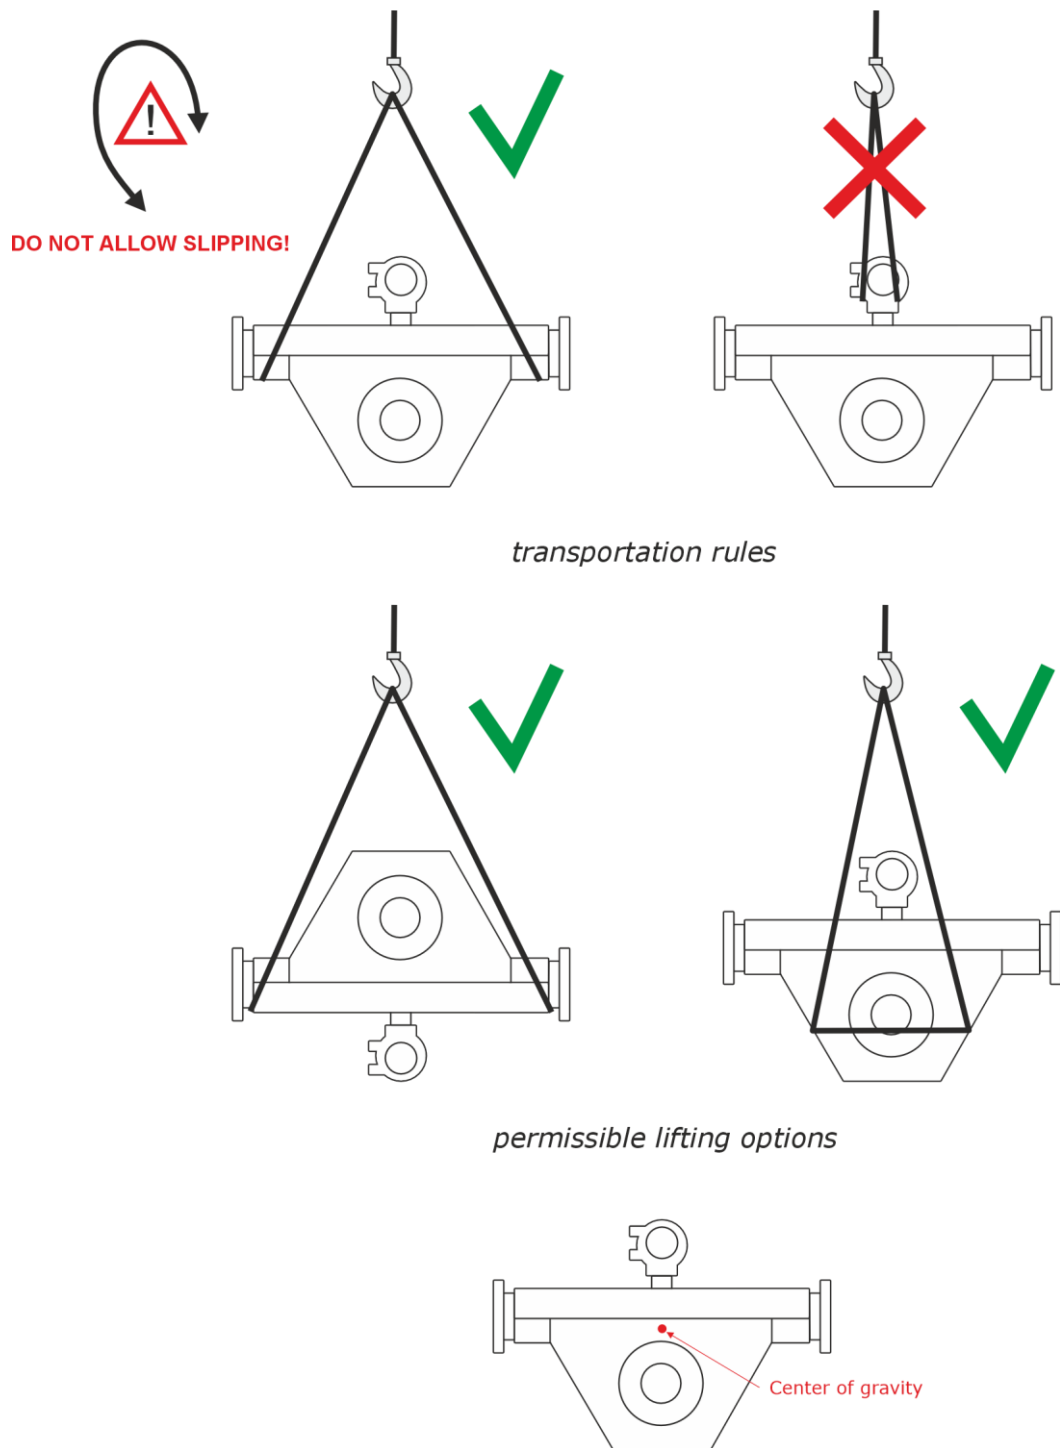

Figure 13 — Transportation and lifting of heavy LC Corio counters to the installation site
- LC Corio must be lifted strictly by the PT housing, taking into account the center of gravity position (see figure 13).